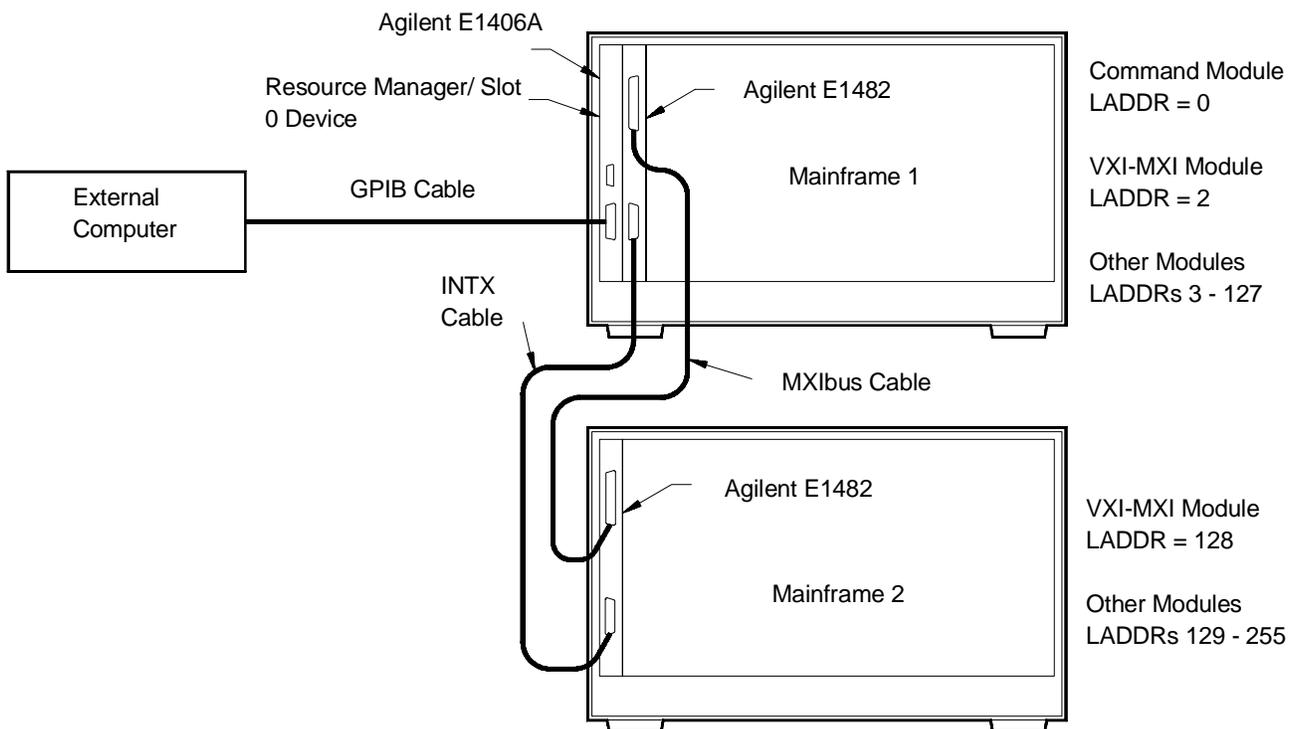

Figure 3-12. Command Module System, 2-Frame
- 2-Frame System - Command Module (Figure 3-12)